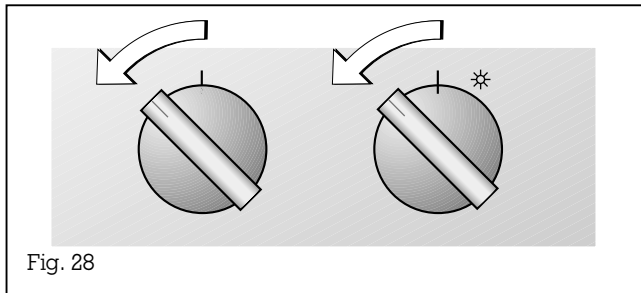

Fig. 28
- Starting in the initial position, turn the two control knobs by one latching position to the left (Fig. 28).